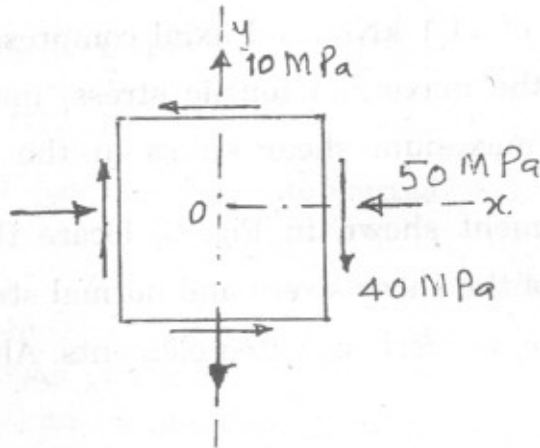

Fig. 7
10. (a) An element in plane stress is subjected to stresses $\sigma_x = -50$ MPa, $\sigma_y = 10$ MPa and $\tau_{xy} = -40$ MPa as shown in Fig. 7, using Mohr's circle, determine : [8]